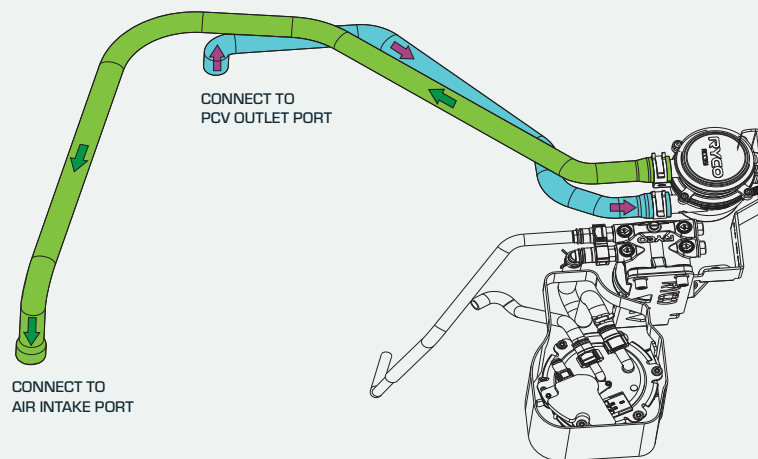

FIGURE 8
- 4 Connect the smaller end (19mm) of the MH9812A Ryco moulded hose (shown blue in Figure 8) to the engine PCV valve outlet and secure with a supplied hose clamp. Feed the hose behind the engine, under the other engine pipes and around the AC pipes and connect the larger end (25mm) of the moulded hose to the lower port of the RCC360 with one of the large PCV hose clamps. Use Figure 9 as a guide.
- 5 Feed MH9812B Ryco moulded hose (shown green in Figure 8) along the top of the first hose ensuring it runs over the factory pipes including the AC pipes. Connect one end to the upper port of the RCC360, securing with a large PCV hose clamp. Connect the other in to the engine PCV air intake port and secure with a PCV hose clamp (Figure 8).